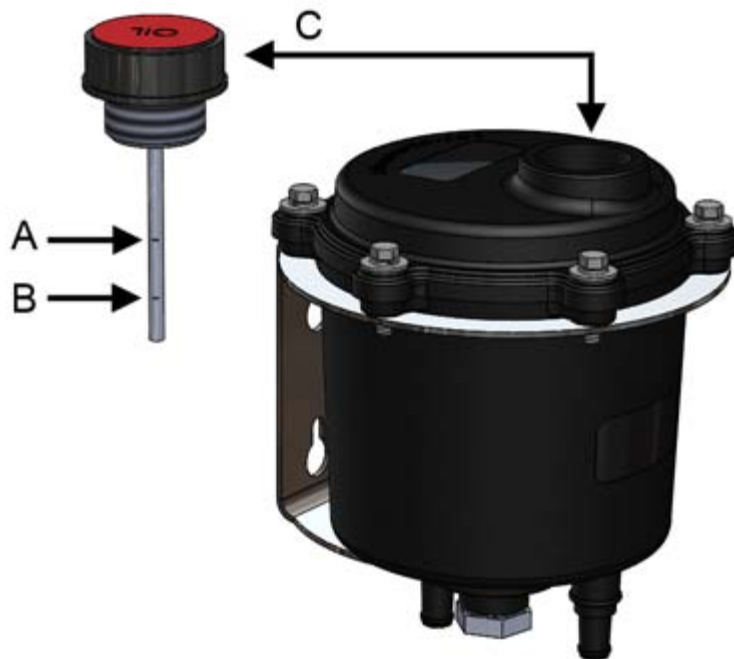

Figure 21. Checking the oil level
6. Check the oil level from the dipstick on the reservoir cap (figure 21, point B).
The system must have the right amount of oil. If it is necessary to add oil to the system, add it through the oil reservoir cap (figure 21, point C). There is a dipstick on the reservoir cap with markings for maximum and minimum oil levels (figure 21).